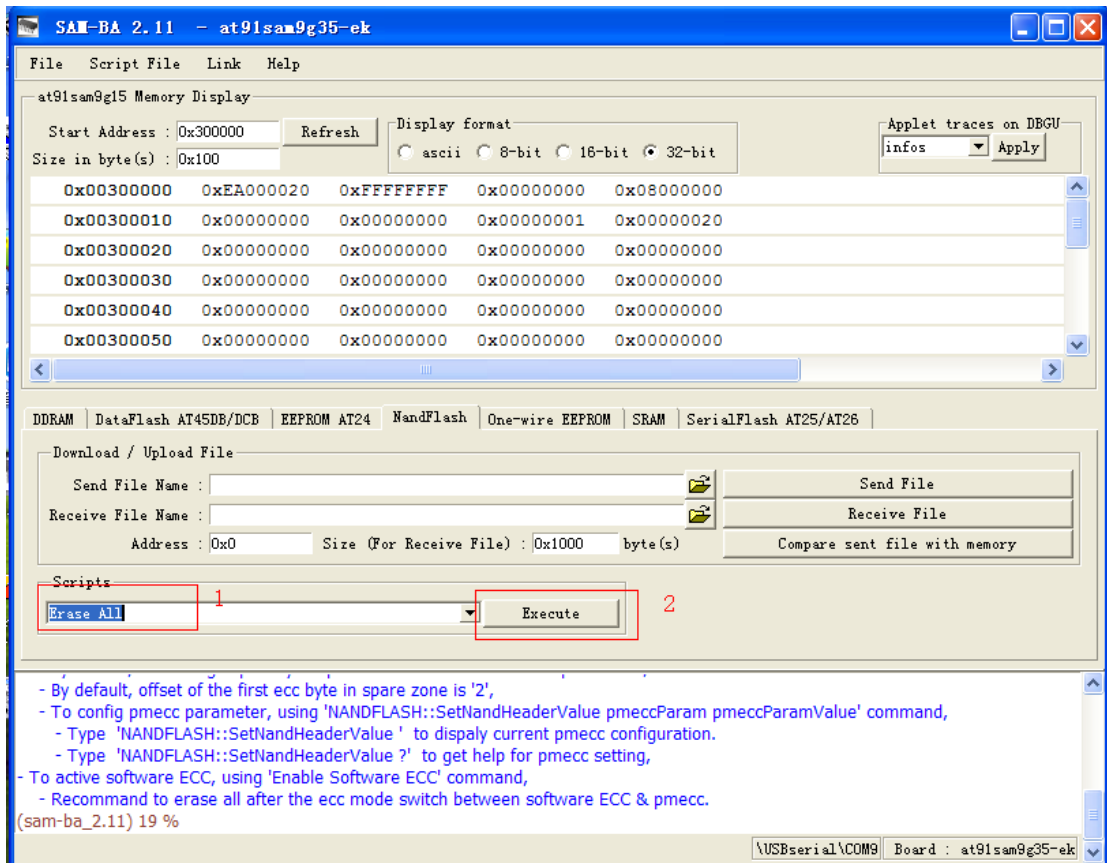

Figure 5-6
(3) Select Erase All in Scripts tab and then click Execute. Refer to figure 5-6: